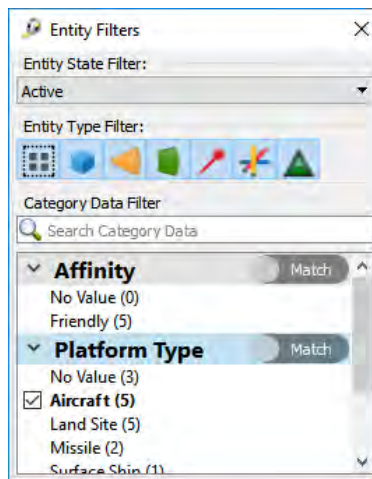

Figure 5.67: Entity Filter Example
6. In the **Category Data Filter** list, click **Aircraft(5)** under the **Platform Type**. Notice that a checked-box will appear left of the **Aircraft(5)** platform type, shown in Figure 5.67.